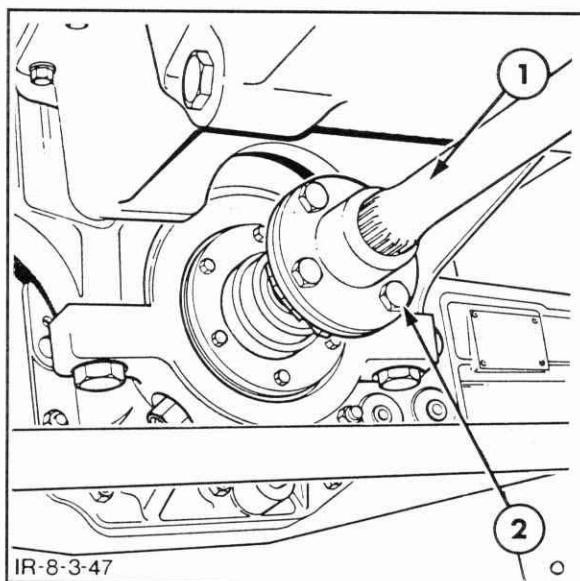

Figure 7-136
3. Support the drive shaft and remove the bolts securing the drive shaft to the axle pinion drive flange, Figure 7-136.